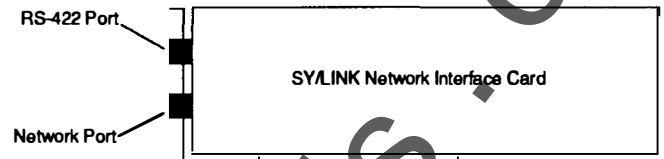
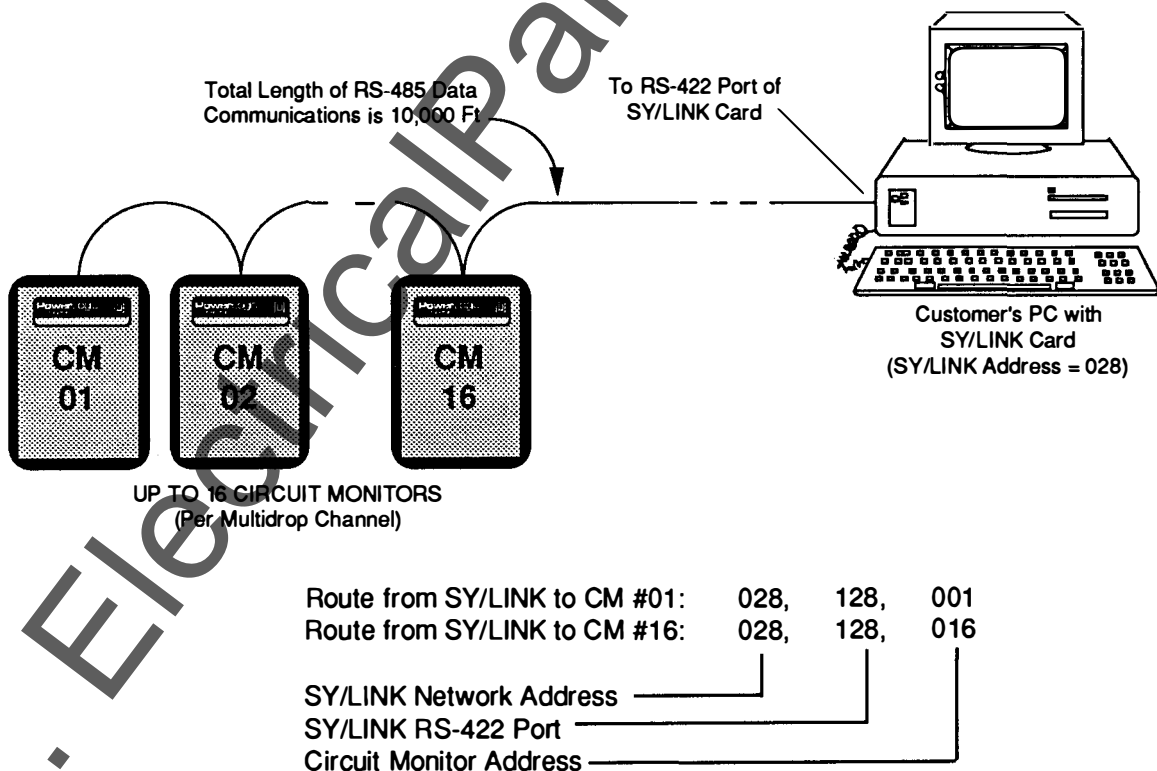

Figure B-3 -SY/LINK Card RS-422 and Network ports.
Figure B-4 - Routing for System 2 configuration from a PC equipped with a SY/LINK card to CMs.
In System 2 a personal computer is used for remote communications to Circuit Monitors. (See Figure B-4). The personal computer (PC) must contain a SY/LINK® Network Interface Card and supporting software to enable remote monitoring of the CM's. Unlike the System Display, the SY/LINK card is assigned a device address (from 1 to 99) which must always be the first route in the route statement, preceded by a 0. For example, if the SY/LINK card has been assigned the address 28, the first route in the route statement should be 028.
The SY/LINK card has two (2) nine-pin communication ports. (See Figure B-3). The top port (female connector) is an RS-422 port (called port 1) and the bottom port (male connector) is a network port for connection to the SY/NET® network. In the system shown in Figure B-4, the CMs are attached to the RS-422 port (port 1) of the SY/LINK card.
the RS-422 port is accomplished through the addition of a route in the second position of the route statement. This route consists of the SY/LINK card's address preceded by a '1'. The '1' informs the SY/LINK card to direct communications out the RS-422 port (port 1). Figure B-4 shows sample route statements from the RS-422 port of a SY/LINK card to Circuit Monitors.